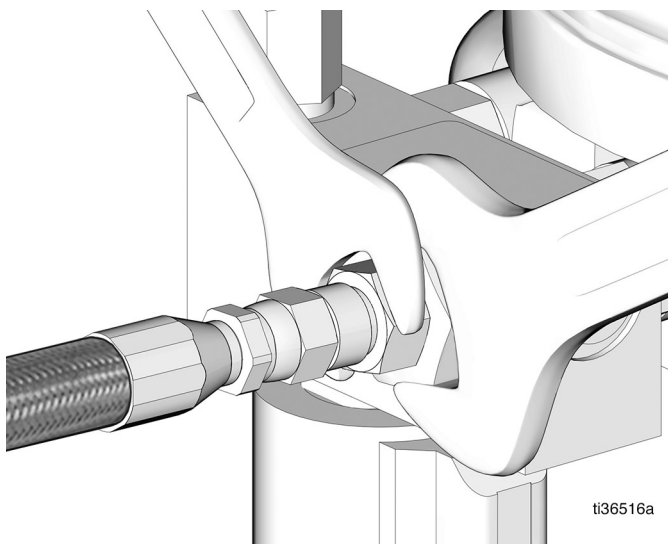

FIG. 3
3. Disconnect the main line from the pump outlet (FIG. 3).